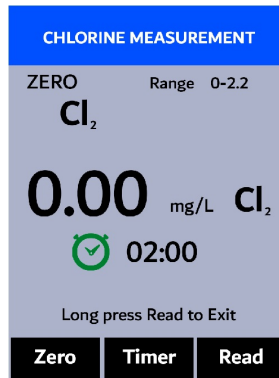

Figure 39.
5. Press **Zero** (). **ZERO** will appear on the top-left corner of the display (Figure 39).